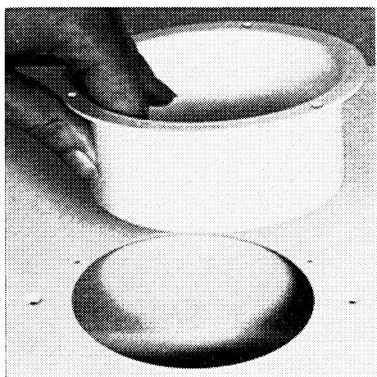

Abb. 4
1. Remove connection piece from appliance (fig. 4).